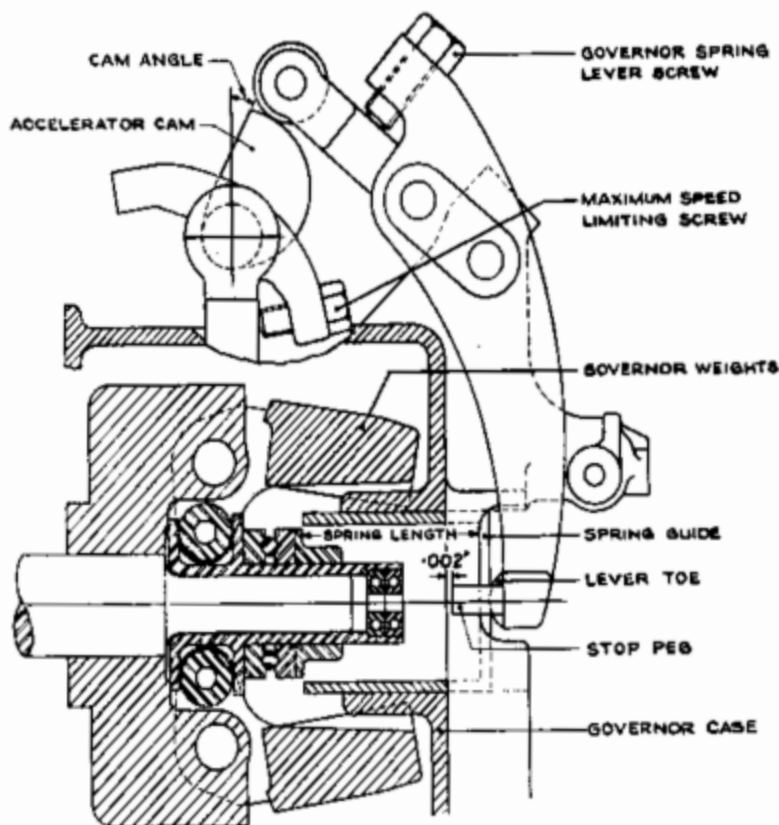

Fig. 42. Governor Re-adjustment
- (2) By adjustment of the maximum speed limiting setscrew in the rocking lever on the accelerator cam spindle (See Fig. 42), set the straight flank of the accelerator cam at the appropriate angle, given in the following table, for the required maximum speed.